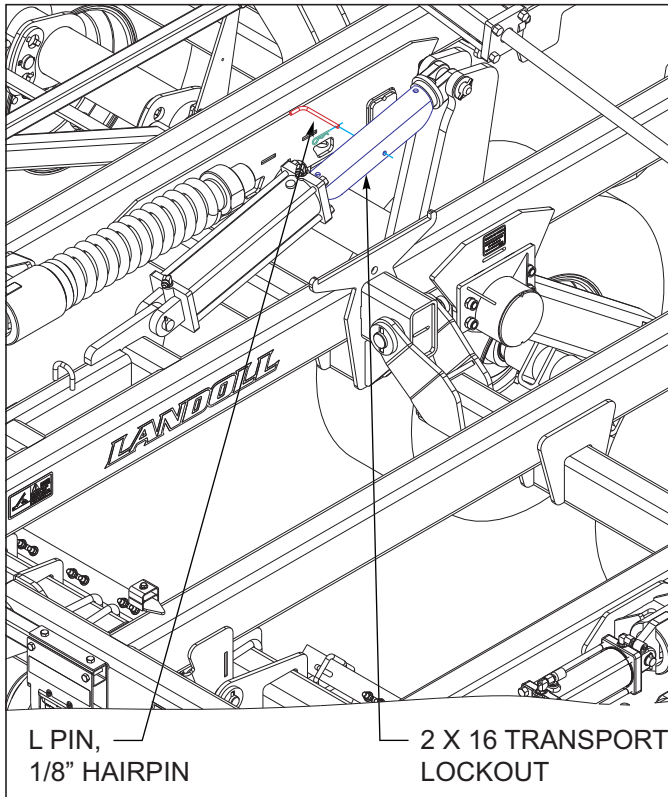
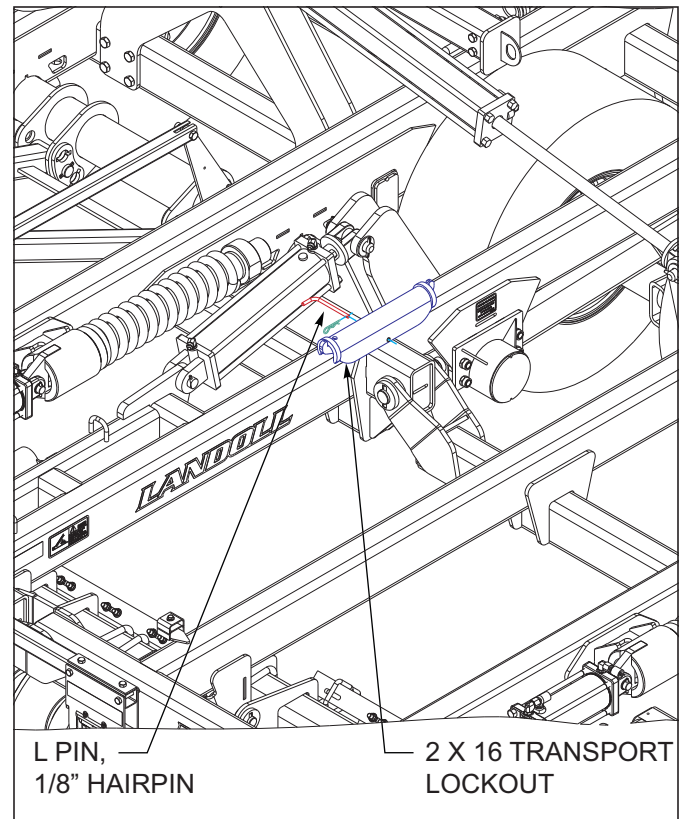

Figure 4-2: Installed Transport Locks
Figure 4-3: Stored Transport Locks
2. The hydraulic system is not filled with oil and should be purged of air before transporting and field operations. Carefully hitch the Coulter Chisel to the tractor and connect the hydraulic lift hoses. Check to make sure the tractor hydraulic reservoir is full of the manufacturer's recommended oil. Slowly raise the machine, and continue to hold the hydraulic lever until all lift cylinders are fully extended. With all cylinders fully extended remove the 2 X 16 transport lockouts. See Figure 4-2. Store transport lockouts as shown. See Figure 4-3. Lower and raise the unit to verify that all cylinders are working simultaneously throughout the stroke. If the cylinders are not working evenly or together, fully extend the lift cylinders and continue to hold the lever to purge any remaining air. Do not loosen any hoses or fittings. Recheck tractor reservoir to make sure it is within operating limits.
1. Raise the unit to take the weight off of the transport locks. Remove the transport locks from the lift cylinders (on the main frame only). Store the transport locks on the retainers above the main lift See Figure 4-3.